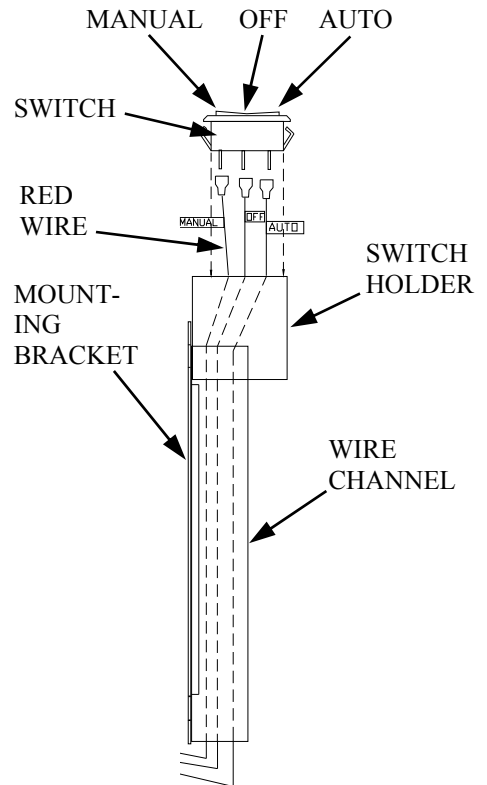
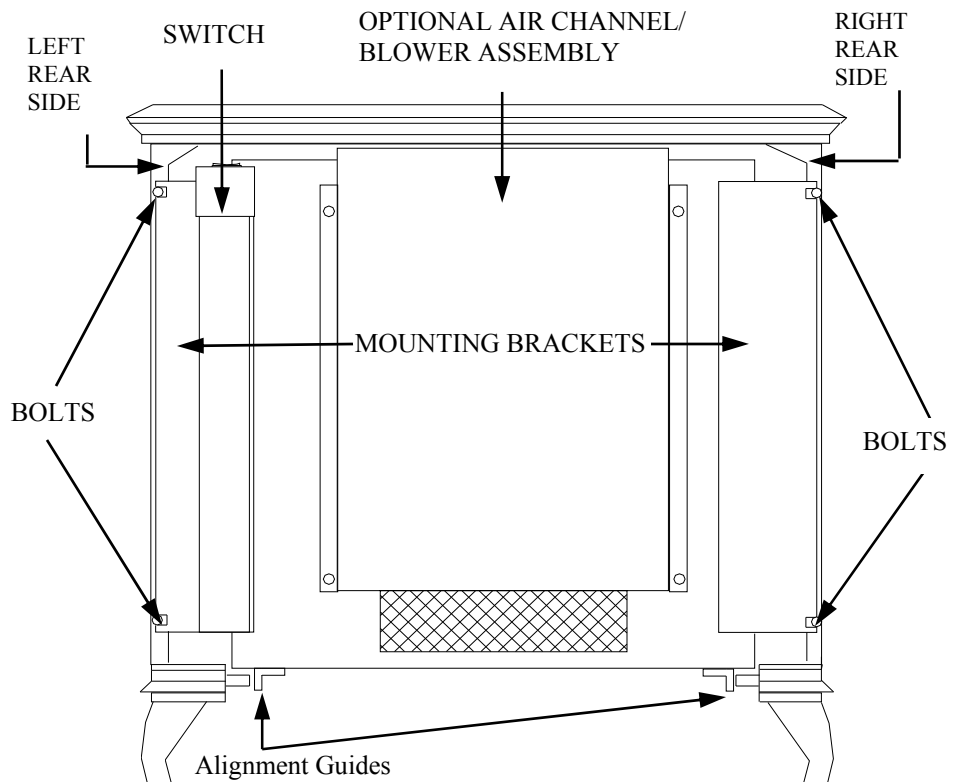

FIGURE 15 - BRACKET/WIRE CHANNEL SWITCH HOLDER (ALSO REFER TO PAGE 16)
FIGURE 14 - BACK OF STOVE WITH FIREBOX INSERT / MOUNTING BRACKETS / SWITCH/ OPTIONAL AIR CHANNEL WITH BLOWER.
5. From rear of stove slide the Firebox into the Cast Stove until the front of the Firebox touches the inner front rear side of the stove. The Firebox has two Alignment Guides made to the bottom of the Firebox. These will ensure a more proper center alignment of the Firebox in the Cast Stove. Then take the mounting bracket without a switch holder and align slots in bracket with top and bottom holes on right side of stove. Fasten with bolts provided. (See Figure 14)
6. Inside of Firebox you will find three (3) wires with a switch attached. Disconnect the wires from the switch. Using the remaining mounting bracket with the switch holder on top, feed the wires through the wire channel starting at the end opposite the switch holder. Continue through the switch hole in top. Reconnect the three (3) wires to the switch (make sure the red wire is connected to the Manual side of the switch, see page 33). Position the switch in the switch holder, press until switch locks into position. (See Figure 15). Take mounting bracket and attach to left rear side of stove, with bolts provided. (See Figure 14)